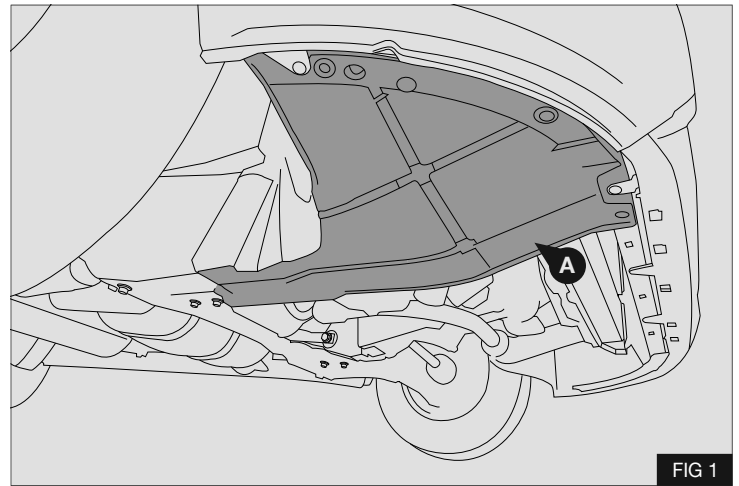

FIG 1
2. Remove under shield (A) - Fig 1